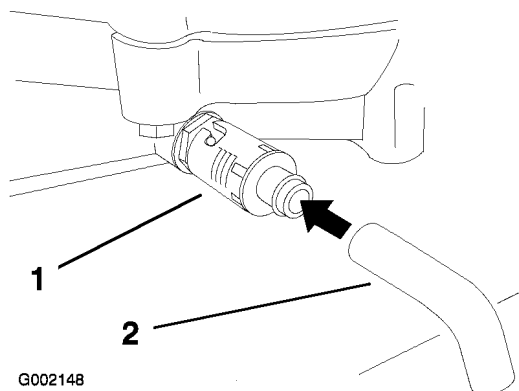

Figure 35
5. Place a pan below the drain. Rotate oil drain valve to allow oil to drain (Figure 35).